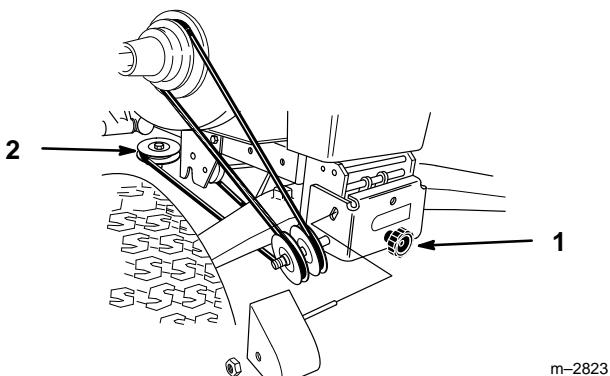

Figure 14
3. Turn knob on idler assembly clockwise to loosen belt. Remove belt from upper mower pulley (Fig. 14).